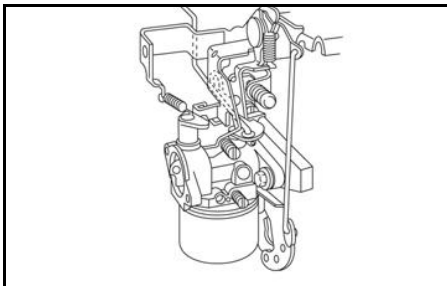

Figure 2
- Figure 2 - Vertical Shaft Model 97700